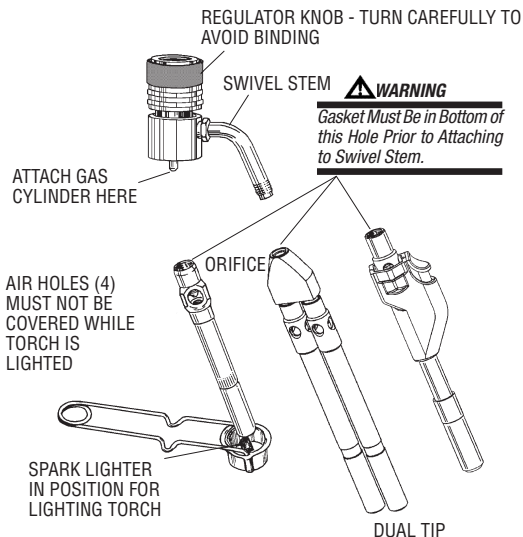

Figure 1: Tip/Regulator Assembly
8. Check inside the threaded hole at the base of the torch tip. Be sure that the small gasket is in place at the bottom of the hold (Figure 1).
1. Screw the tip into the swivel on the regulator hand tight (Figure 1). **DO NOT** use a wrench. For air/fuel snake torch: assemble hose to swivel stem by hand and hose to torch with wrench.
1. To light standard tips, turn the regulator on (counterclockwise). Cup the spark lighter over the torch tip to collect gas (Figure 1).
1. **Tip Interchangeability:** Other tips are available for the air/fuel torch. Use genuine replacement parts of the same brand. Be sure that the sealing gasket is in place before lighting the torch (Figures 1, 2).